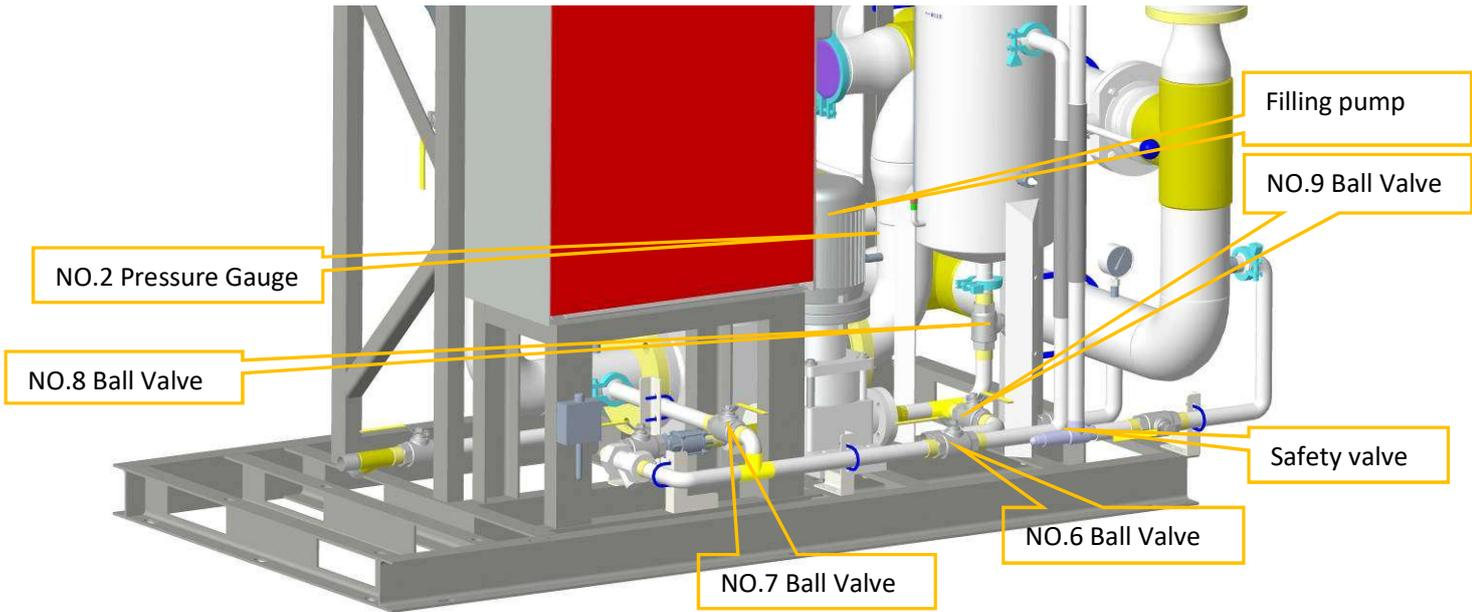

Figure 7-5 Pump station - charging valve
- 2) Close NO.8 Ball Valve and NO.6 Ball Valve as shown in Figure 7-5, open NO.7 Ball Valve, click on the filling pump on the touch screen interface, and turn it on. The refilling pump can be used for refilling both the system and the water tank. If the valve handle is parallel to the pipeline, the valve is in the open state; if the valve handle is perpendicular to the pipeline, the valve is in the closed state.